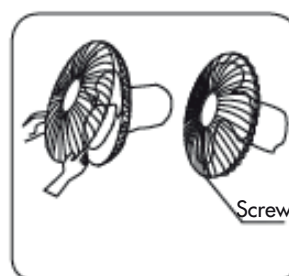

Fig. 3
3. Undo the clips on the front grille and position it on the rear grille (align the locking-screw holes). Do up the clips. Secure both grilles by fitting and tightening the locking screws and nuts (fig. 3).